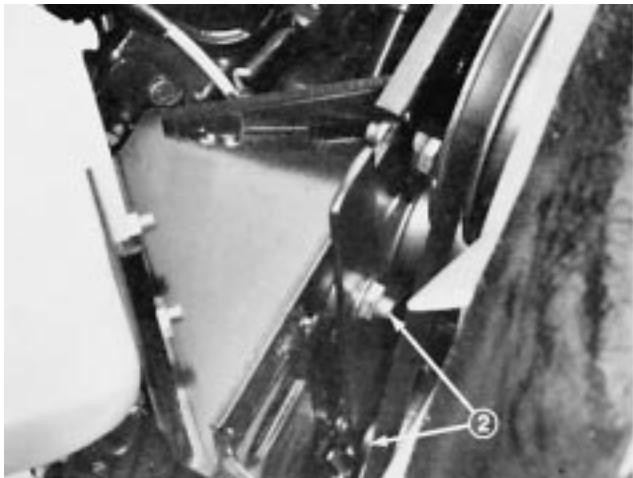

Figure 37
3. Remove two capscrews holding the transmission drive shaft coupler to the engine pulley (Fig. 37). Do not remove the drive shaft from the transmission.
2. Loosen idler lever bolts (Fig. 37). Put 10 lb. of force on the top of idler lever and tighten the bolts.
1. Open hood. Loosen two flange nuts securing idler pulley lever and move pulley away from belt (Fig. 37).